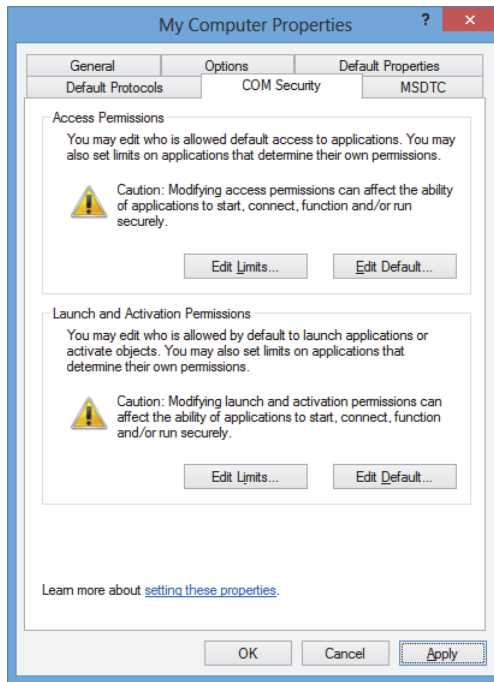

Figure 2-18 The My Computer Properties dialog box
17. In the **My Computer Properties** dialog box, click **Apply** (see Figure 2-18 on page 44).